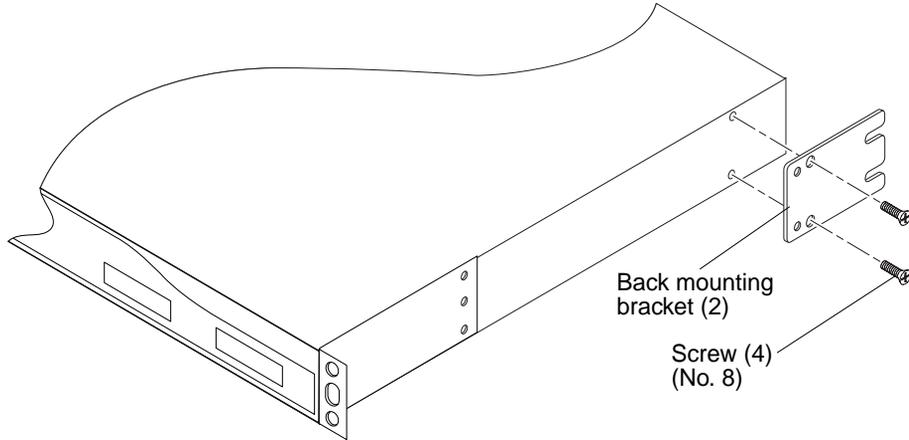

FIGURE 9-6 Removing and Replacing the C3524 Ethernet Rear Bracket
- 8. Using a No. 2 Phillips screwdriver, remove the two screws securing each back mounting bracket from the Ethernet switch (FIGURE 9-6).**
- 3. Using a No. 2 Phillips screwdriver, install the two screws securing each back mounting bracket to the Ethernet switch (FIGURE 9-6).**